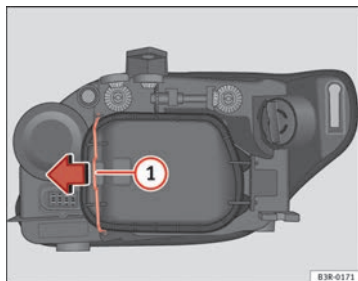

Fig. 193 Dipped beam headlights
Although it is not necessary, previously remove the rigid cover → fig. 193 for easier turn signal bulb changes.
- Move the brace ⇒ fig. 193 ① in the direction of the arrow and remove the rigid cover, separating the brace side and then removing the two tabs from the other end of the cover.